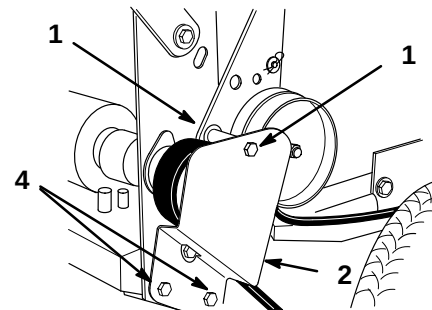

Figure 32
1. Remove top capscrew securing idler support and idler bracket to rear frame (Fig. 32).
2. Loosen bottom two mounting screws enough to allow belt to pass between drive pulley and idler support (Fig. 32).